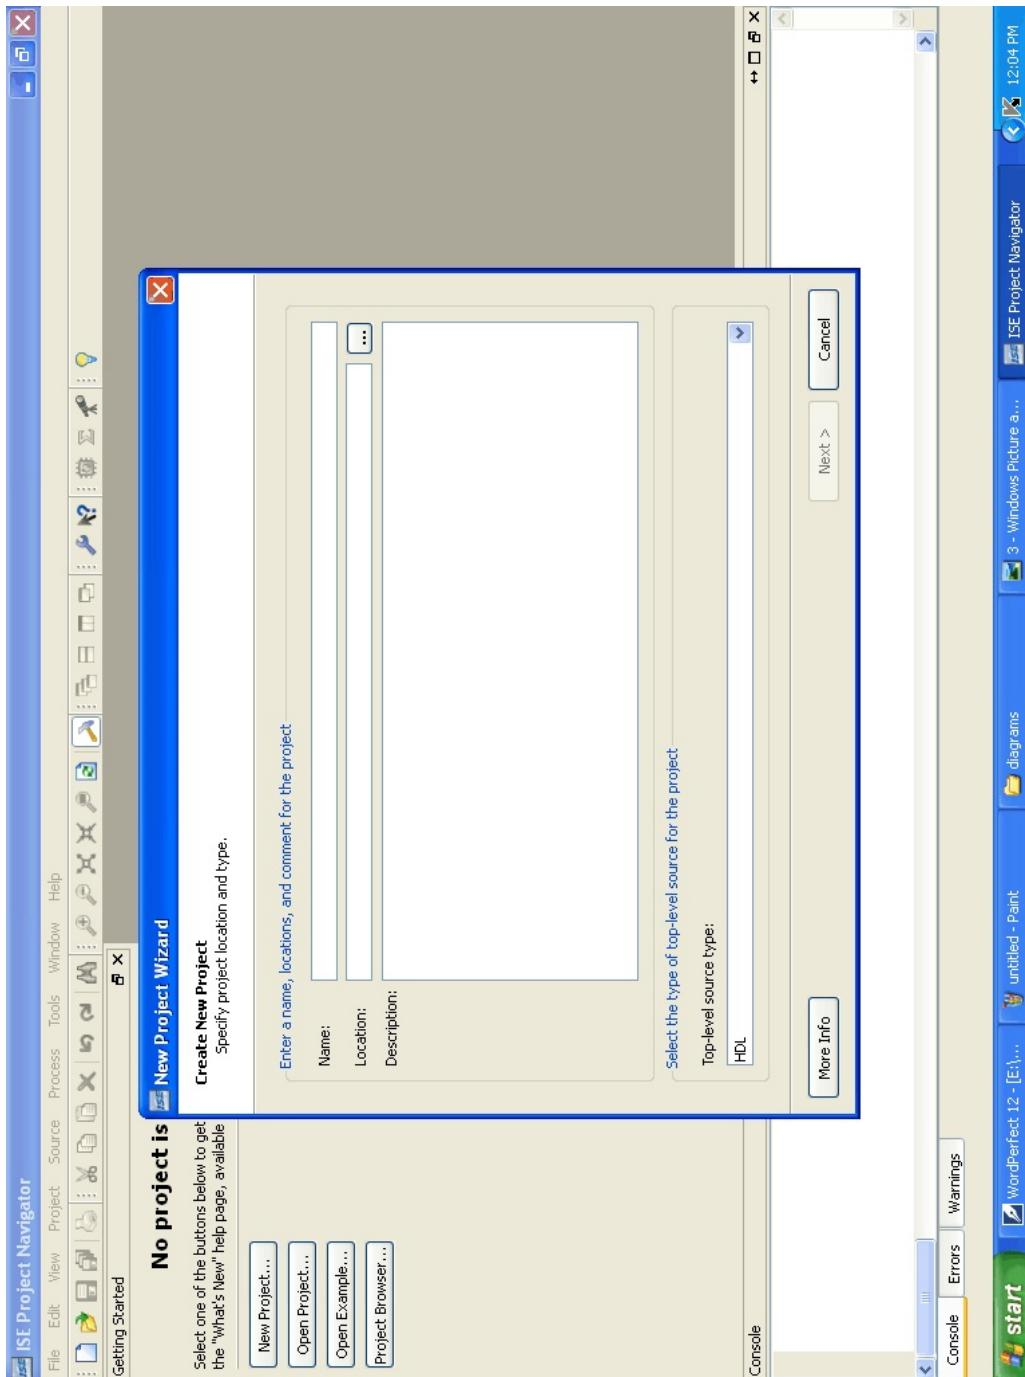
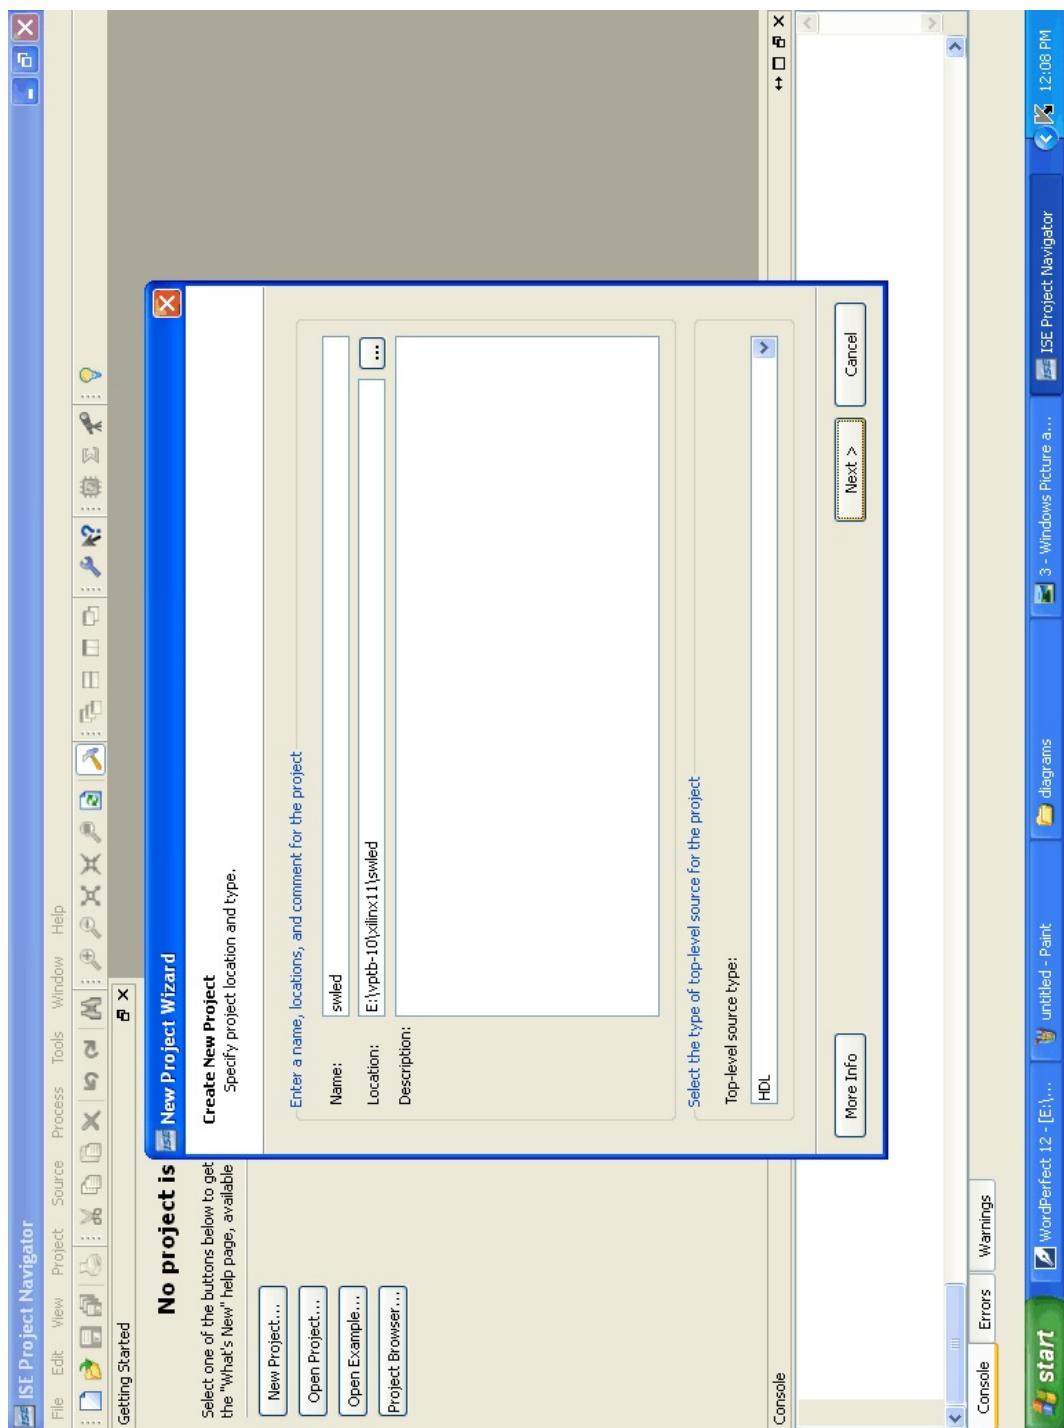

Figure-4
Figure-5
2. **New Project wizard** window shown in **Figure -4** will appear. In the **Name** field, enter your project name and enter the location where you want to create the project in the **Location** field. In the **Top-Level Module** select **HDL** and click **Next** (refer **Figure-5**).